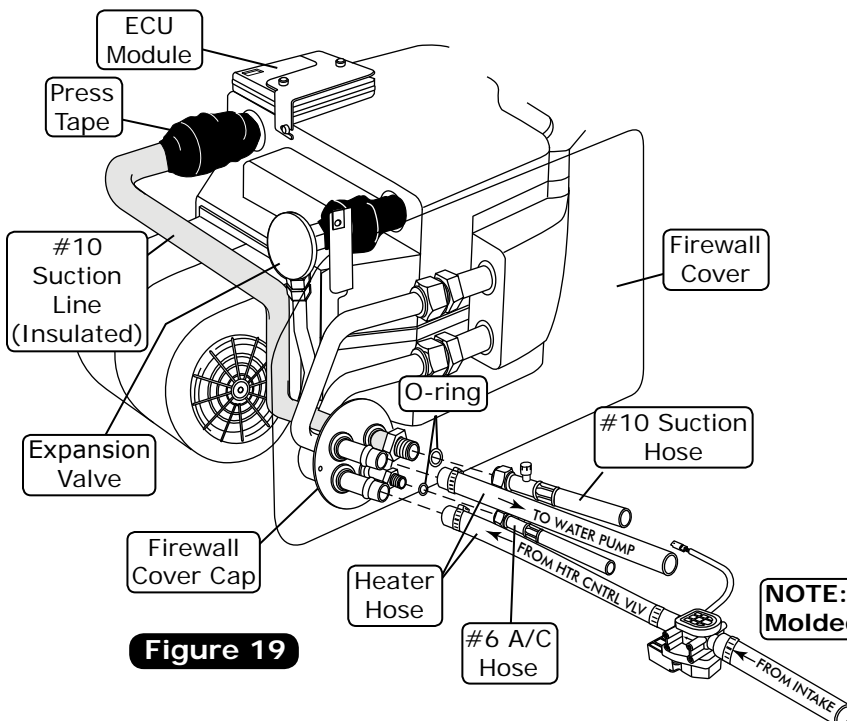

Figure 19
1. Route a piece of heater hose from the water pump to the heater line coming through the firewall as shown in Figure 19, Page 21. Secure using hose clamps.
2. Route a piece of heater hose from the intake to the heater line coming through the firewall as shown in Figure 19, Page 21. **NOTE: Install heater control valve in line with the intake manifold (pressure side) heater hose, and secure using hose clamps as shown in Figure 19, Page 21. Also note proper flow direction.**